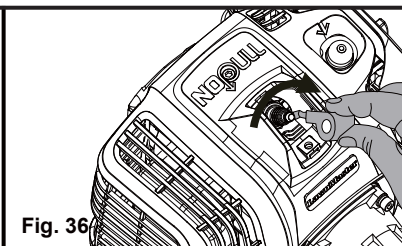

Fig. 36
- Reinstall the cleaned or a new spark plug by turning it clockwise into place (Fig. 36).